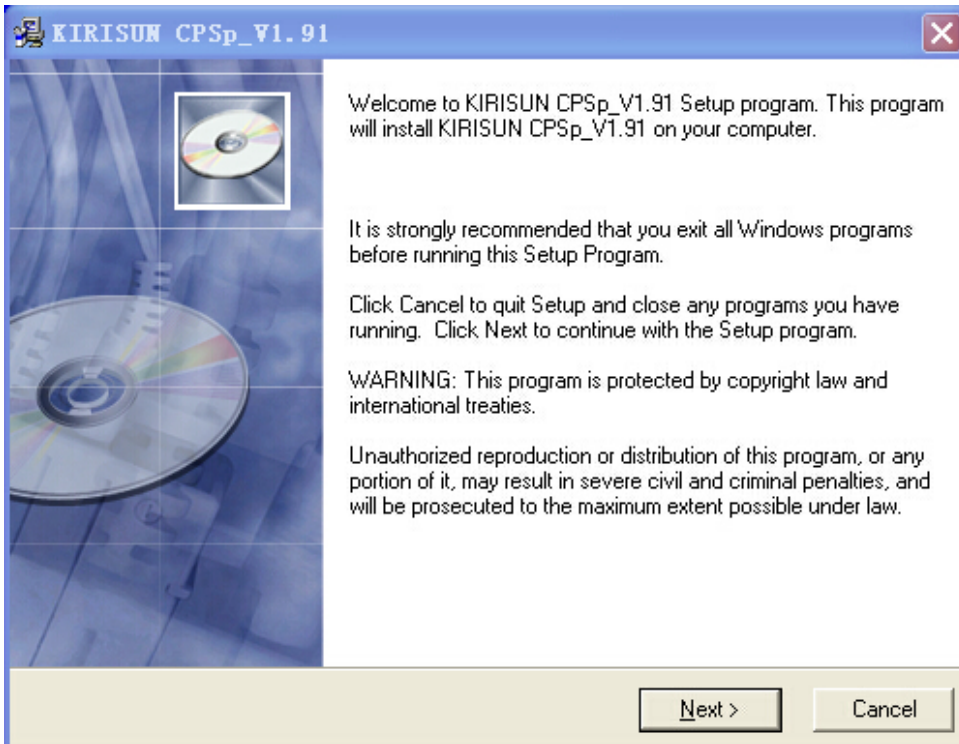

Figure 4.1
- (1) Double click the installation file, pop up interface as Figure 4.1.